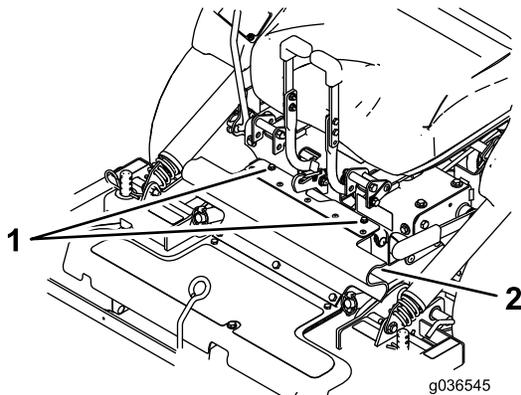

Figure 77
- Loosen the bolts attached to the rubber guard (Figure 77).
- Align the upper portion of the rubber guard and secure it with the attached bolts (Figure 77).